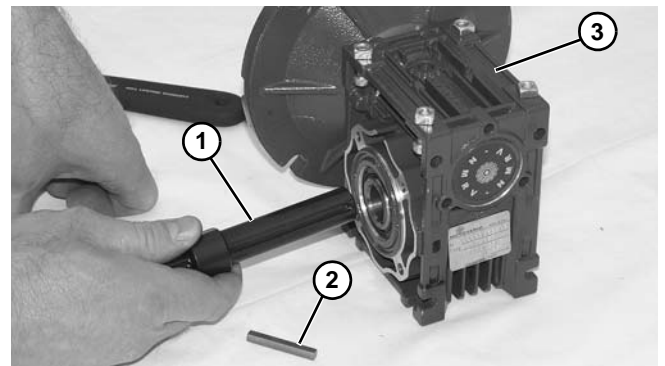

Figure 24
9. Remove driveshaft (**Figure 24, item 1**) and key (**Figure 24, item 2**).
10. Replace gear reducer (**Figure 24, item 3**).
12. Replace the original shaft components into new gear reducer (**Figure 24**).